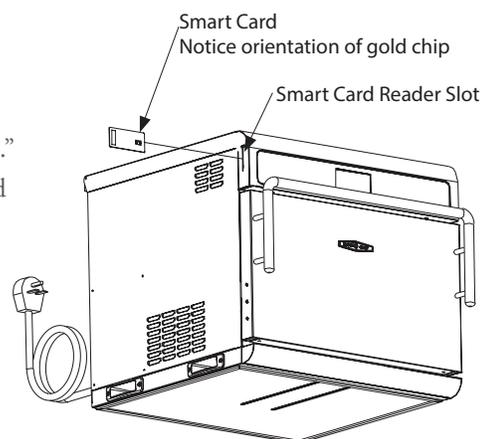

Figure 11: Inserting Smart Card - i3 and i5
1. Insert the gray smart card marked “1 of 2” (Figure 11).